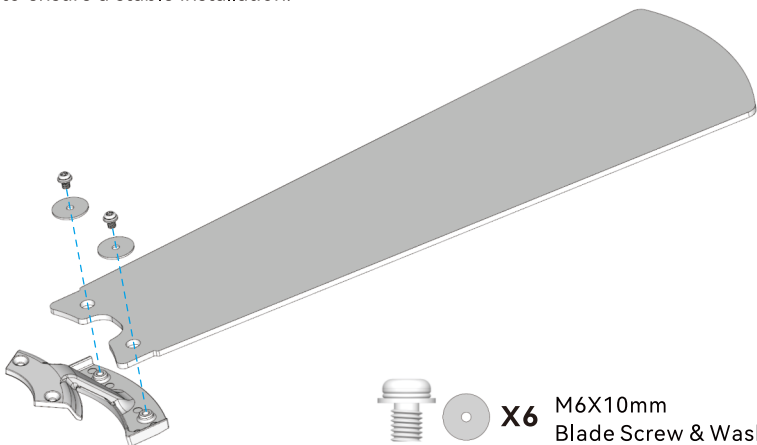

Fig. 1.1
1.1 Locate 6 blade attachment screws and washers in the hardware pack. Secure each blade to the blade bracket with the screws and washers as shown in Fig.1.1.